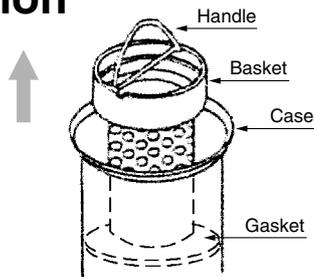

Fig. 4 Basket removal
1. Attach a handle to the notch and remove the basket by pulling upwards. (Refer to Fig. 4). (A handle is provided with the basket of the one element type).